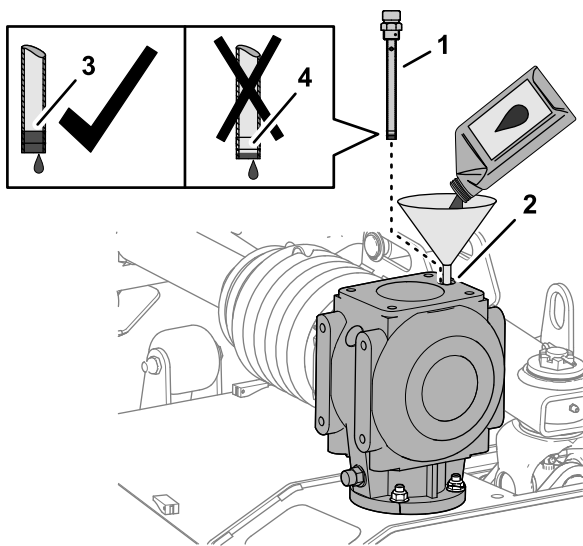

Figure 57
1. Add 1,064 mL (36 fl oz) of the specified gear lubricant to the gearbox through the dipstick port (Figure 57).
2. Thread the dipstick into the port, remove the dipstick, and check that the lubricant level (Figure 57).
4. Thread the dipstick into the fill port and tighten the dipstick (Figure 57).